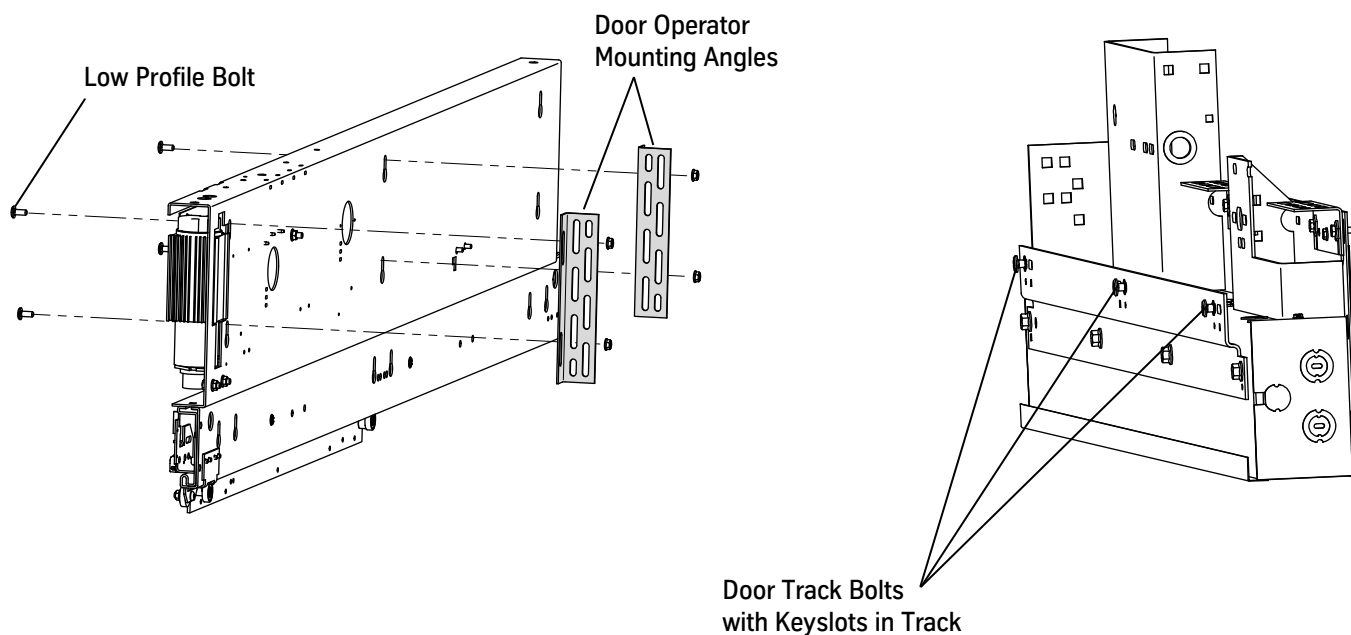
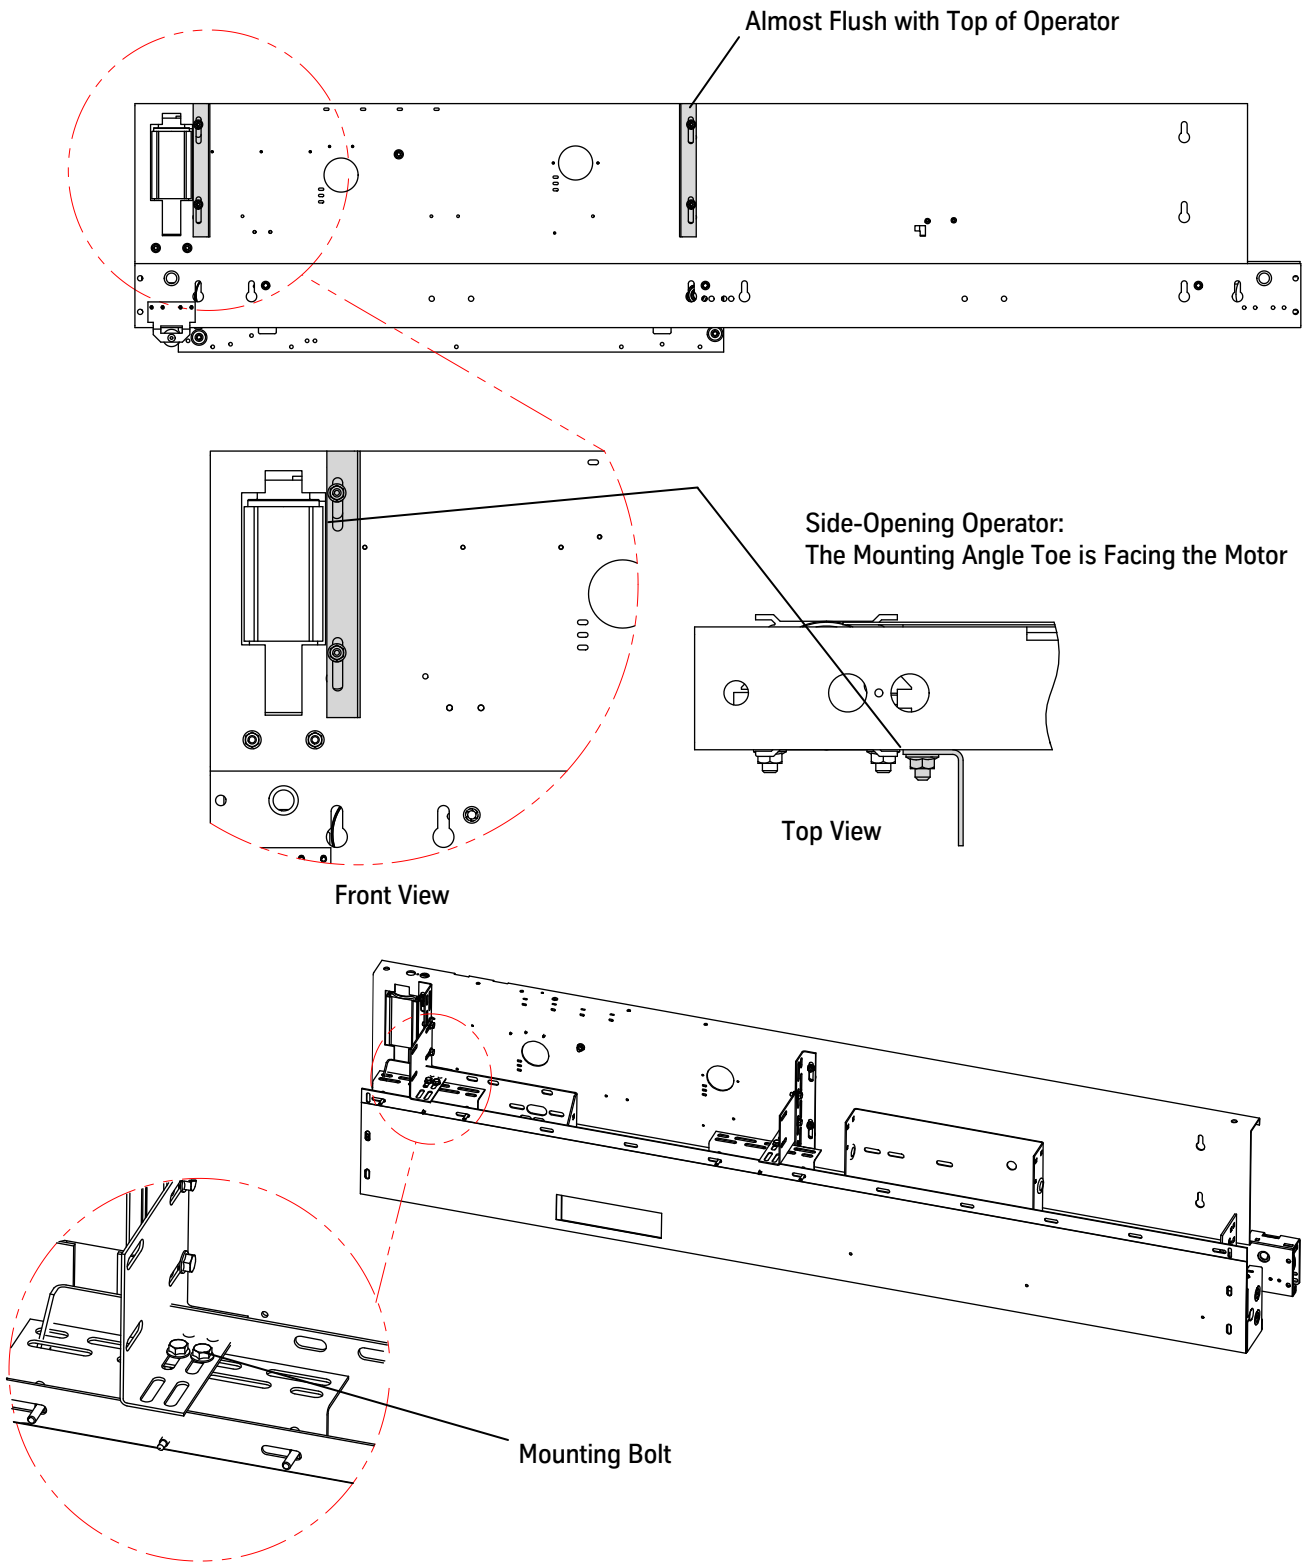

Figure 6 - Door Operator Machine Installation (1 of 2)
Figure 7 - Door Operator Machine Installation (2 of 2)
10. Install the door operator to the adapter angle. See Figure 6 below and Figure 7 on page 17.